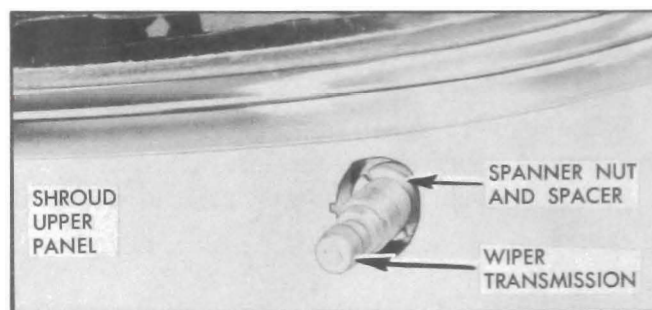

Figure 13-15—Windshield Wiper Transmission Attachment
6. Using Wrench 6592, remove wiper transmission spanner nut and spacer. See Figure 13-15.